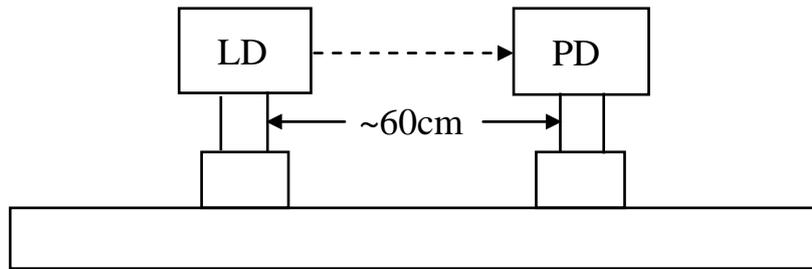
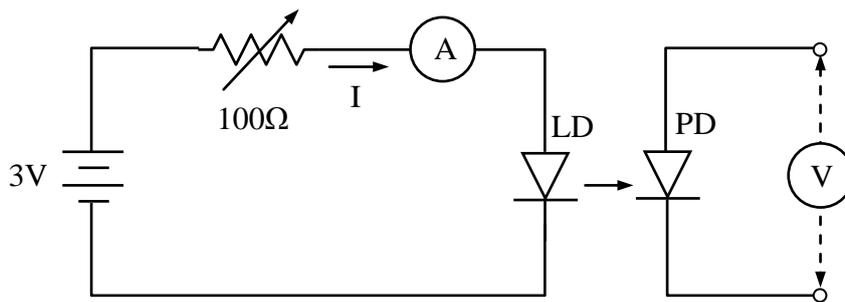

Fig. 4 Optical setup (LD : laser diode; PD : photodetector).
Fig. 5 Equivalent circuit for the connection of the laser diode.
1. Mount the laser diode and photodetector in a horizontal line on the optical bench, as shown in Fig. 4. Connect the variable resistor, battery set, ampere meter, voltage meter, laser diode and photodetector according to Fig. 5. Adjust the variable resistor so that the current passing through LD is around 25 mA and the laser diode emits laser light properly. Choose the low gain for the photodetector. Align the laser diode and the photodetector to make the laser light level at the small hole on the detector box and the reading of the photodetector reaches a maximum value.